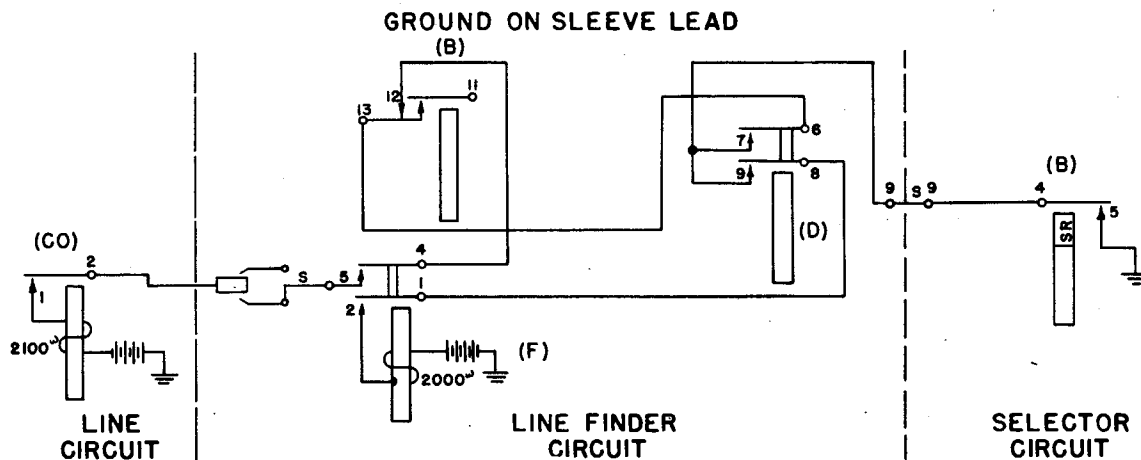

FIG. 3
The ground on the sleeve (S) lead, (Fig. 3) to hold the (F) line finder and (CO) subscriber relays, comes from the 5-4 contacts of the (B) relay, terminal 9 of the switch jack out over the sleeve (S) lead to the line finder and subscriber line circuits.